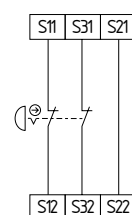

Fig. 9
**Dual-channel emergency stop circuit with command devices to EN ISO 13850 and EN 60947-5-5 (see Fig. 9)**